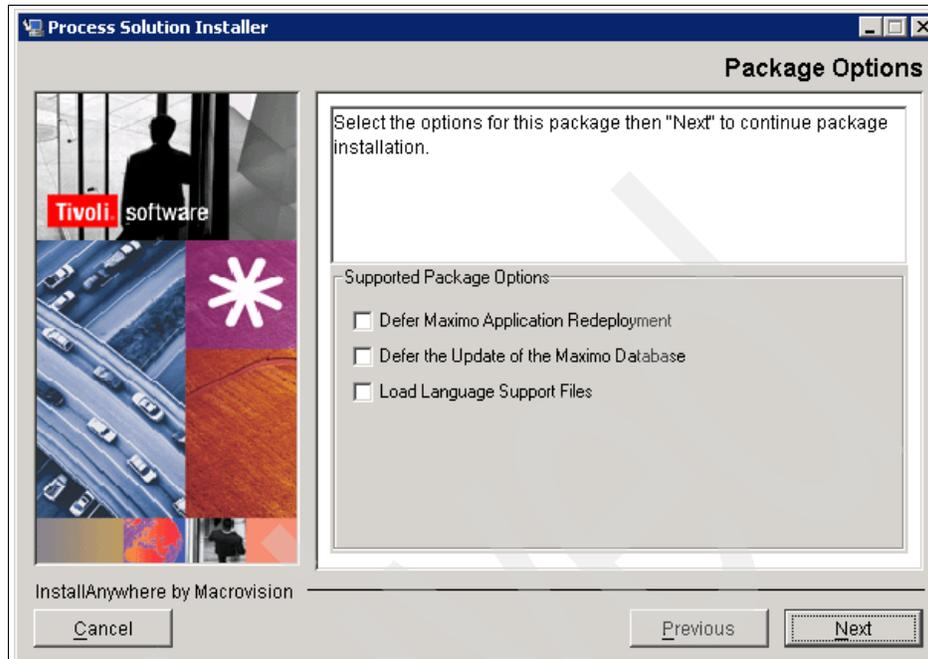

Figure 8-10 Package options
17. The Package Options dialog box opens, which is shown in Figure 8-10 on page 229.